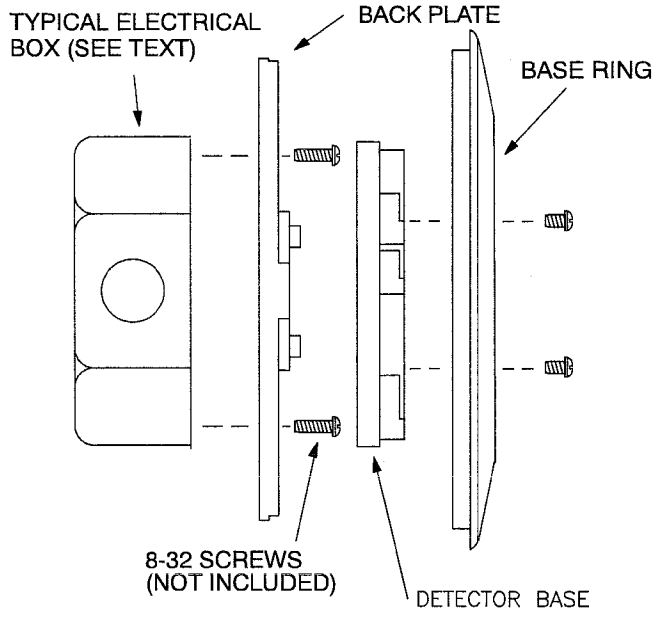

**Figure 6 Base Installation, IBN-553, IBN-554**
The IBN-553/554 bases mount directly to 4-inch square and 4-inch octagonal electrical boxes. The IBN-552 base mounts directly to 3-1/2-inch square, 4-inch square, and 4-inch octagonal electrical boxes. See Figure 6. and Figure 7.
- Secure the base to the electrical box with two 8-32 pan-head, zinc-plated steel screws (not supplied) as shown in Figure 6.